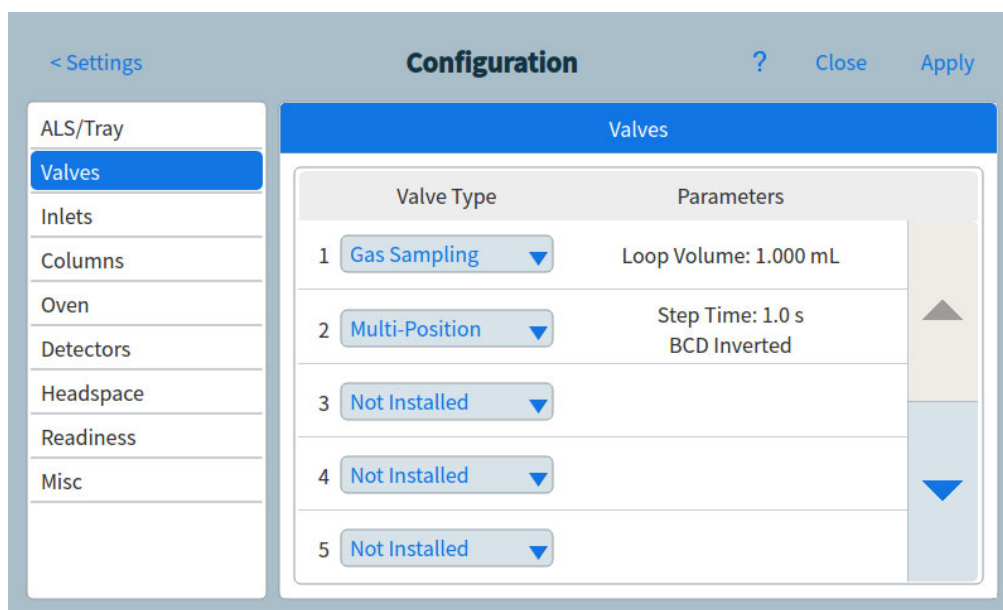

Figure 65. Valves page
- 1 Select **Settings > Configuration > Valves**. See Figure 65.